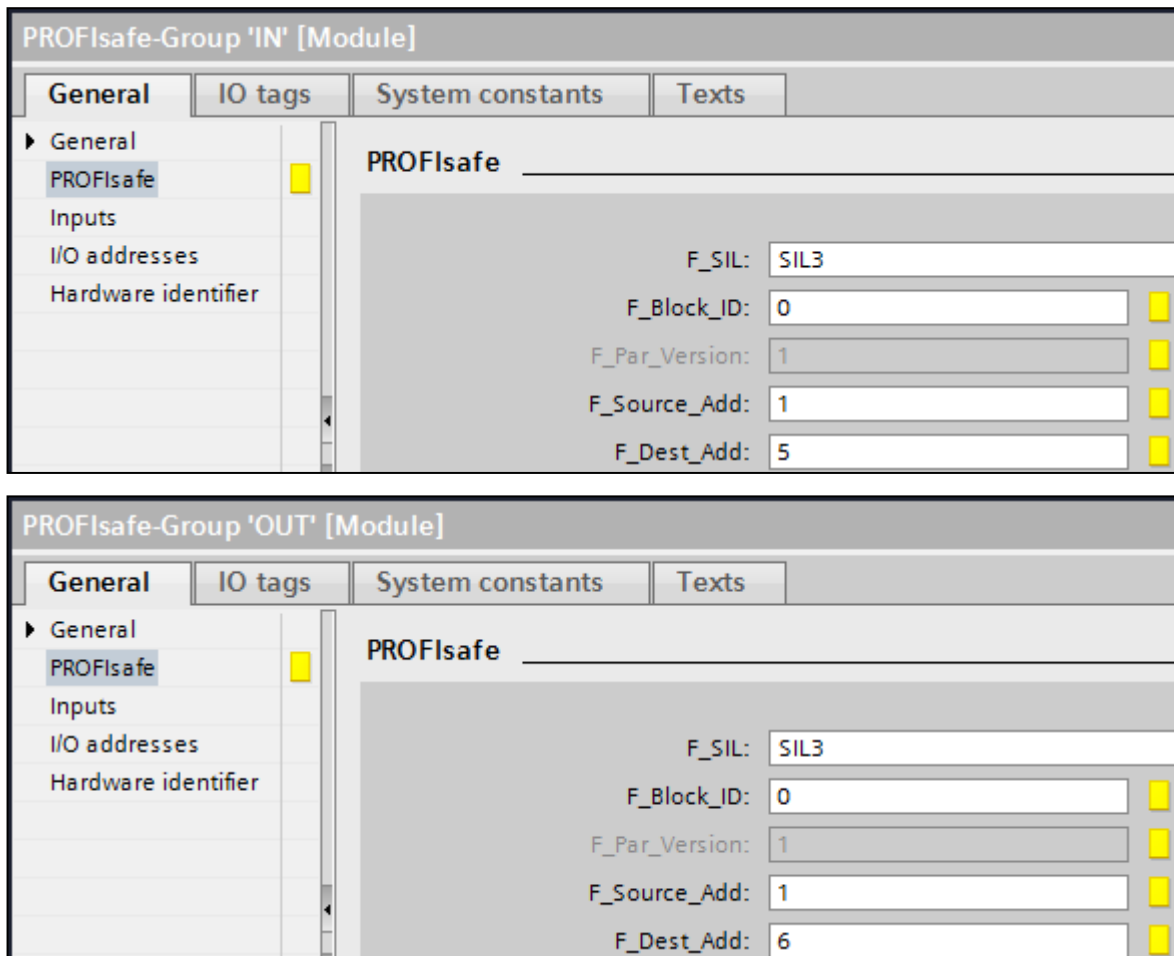

Figure 43: TIA – PROFIsafe-Groups » Setting up of PROFIsafe addresses 'F_Dest_Add'
2. in the TIA tool under the properties of the 'PROFIsafe' group(s) of the PSS u2 system (Figure 43 [34]).